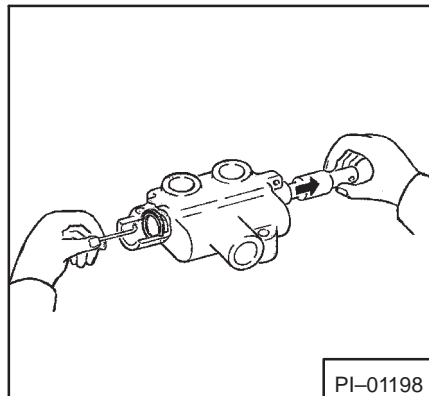

Fig. 4-21 Removing Spool
5. Pull spool out of housing from front of valve and remove back seal (Fig. 4-21).